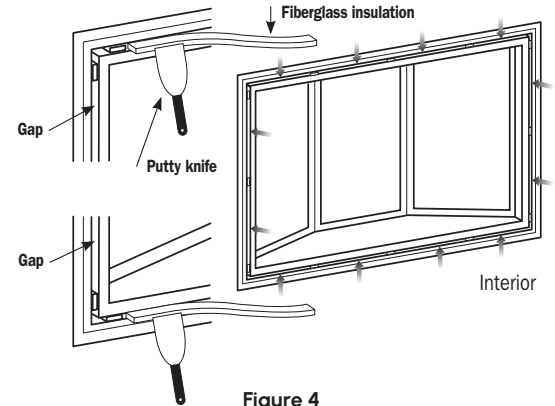

Figure 4
- Using fiberglass insulation completely insulate between projection window frame and opening in structure (**Figure 4**).